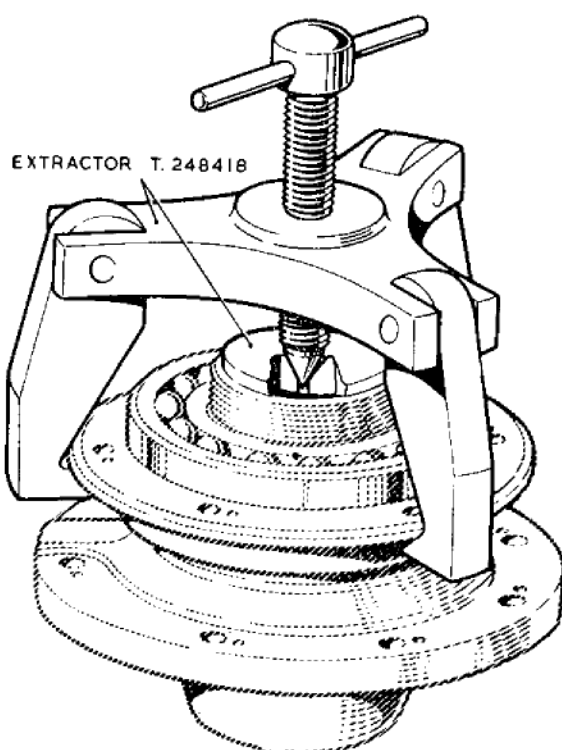

Fig. 3. Bearing-ring and ball-race extractor
27. Clear the peened cup washer (60) and, using the spanner T.201736, remove the serrated nut (59). Remove the bearing ring (62) and the ballrace (61) of the upper pump, and also the combined bearing ring and governor gear drive of the lower pump by using the extractor T.248418 (fig. 3).